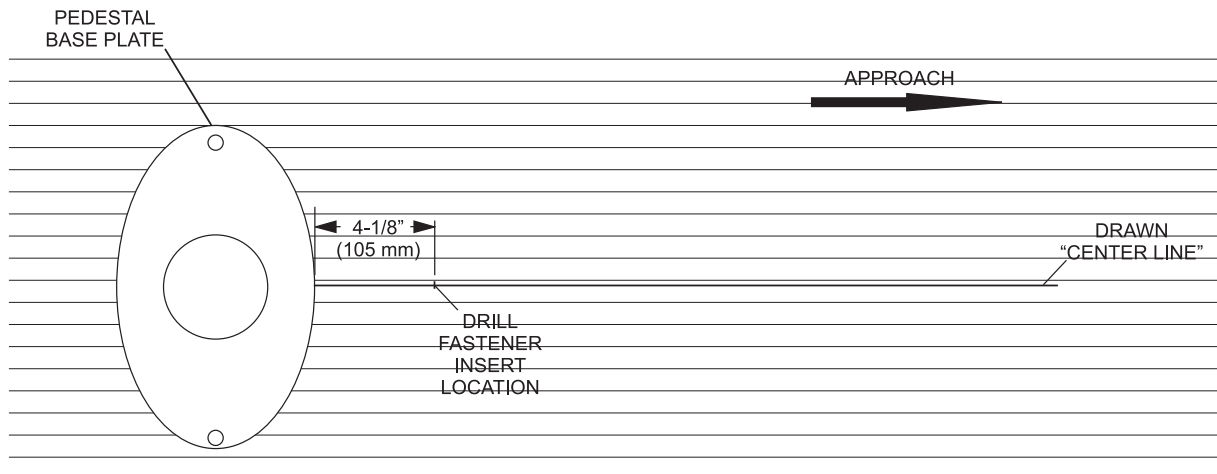

Figure 2
4. From the pedestal base plate rear edge carefully measure and mark 4-1/8" (105 mm) on the "Center Line" drawn earlier. Refer to *Figure 2*.
- Use a power drill with 5/8” (16 mm) bit to drill completely through the approach surface at the marked insert locations. Refer to *Figures 2 , 3 & 4*.